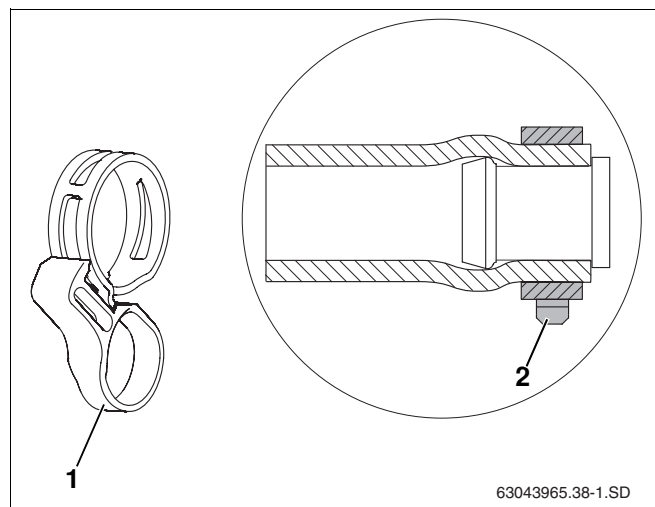

Fig. 39 Hose clip with locking ring, also shown fitted to the pre-assembled dummy plug
- The hose clip **MUST** be positioned correctly **BEFORE** the release ring (Fig. 39, **Item 1**) is removed (Fig. 39, **Item 2**). Subsequent loosening using pliers can impair resilience.